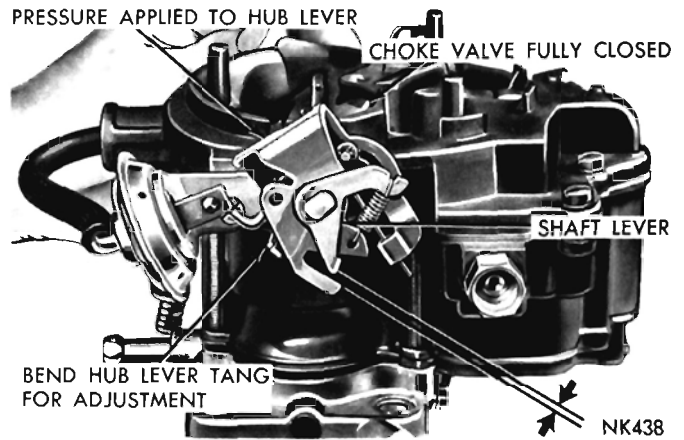

Fig. 25—Spring Staged Choke Clearance
The new spring staged choke, shown in (Fig. 25) is a device incorporated in the choke mechanism which limits the choke blade closing torque when cranking the engine at temperatures below zero. Thus the spring staging of the choke is a better match for the engine's starting mixture requirements at the low temperatures.
To test the spring staged choke for correct operating clearance, refer to (Fig. 25), then proceed as follows:
- (1) Push on the hub lever with the finger, at the closed choke position. A small opening should exist between the shaft and the hub levers, as shown in (Fig. 25).
- (2) Using a drill or gage, measure the opening. The opening should be from .010 to .040 inch.
- (3) If an adjustment is necessary, bend the hub lever tang until the correct opening has been obtained.